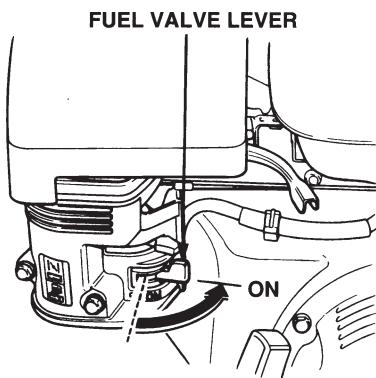

Figure 12. Fuel Shut-OFF Lever
1. Move the fuel shut-off lever (Figure 12) to the **ON** position.